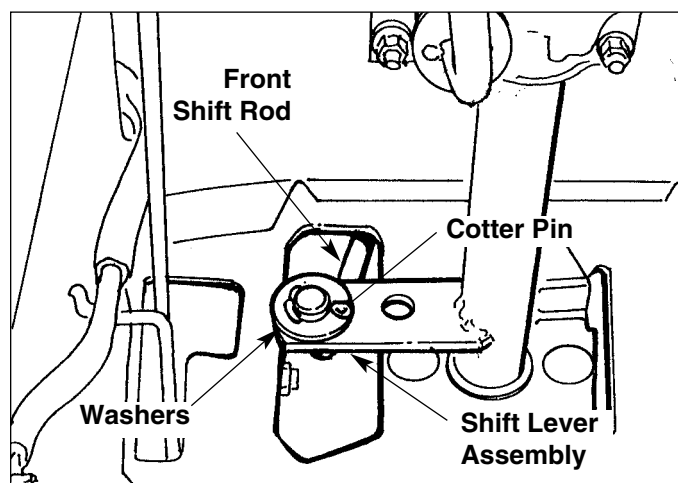

Figure C-22. Front Shift Rod/Shift Lever Assembly (Shown With Battery Removed)
3. See Figure C-22. If necessary, the rear shift rod may also be removed and replaced at this point. Remove the hex nut and related hardware that secure the rear shift rod to the speed control lever on the transmission (See Figure C-23).
3. See Figure C-22. If necessary, the front shift rod may also be removed and replaced at this point. For easiest access, remove the battery (see "Hand Controls" section), then remove the cotter pin and washers that secure the front shift rod to the shift lever assembly.